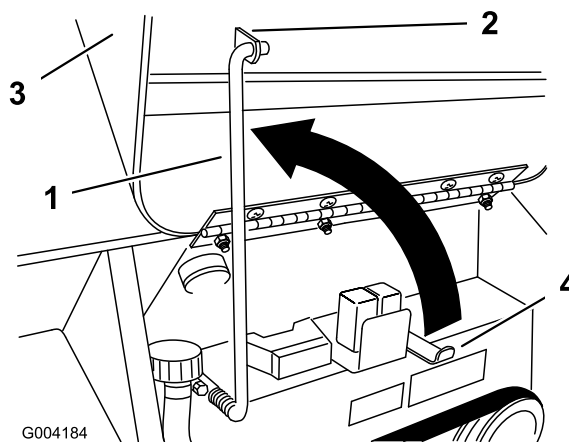

Figure 22
3. Swing the prop rod up and secure it in the bracket on the hood (Figure 22).